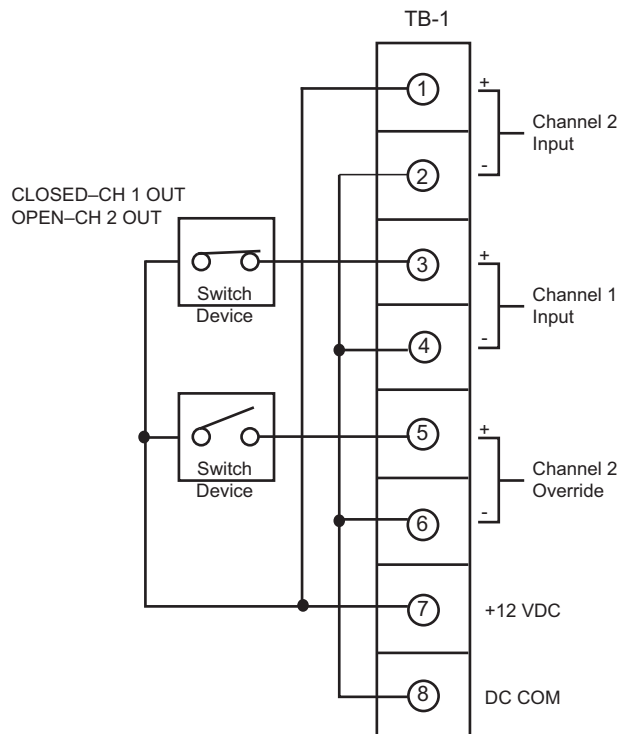

Figure 25a
- 1. Refer to Figures 25a through 28a for various switching devices which can be used.
9. Double check all input wiring and switching circuit connections to insure proper wiring and hook-up. Refer to figures 25a through 28a.